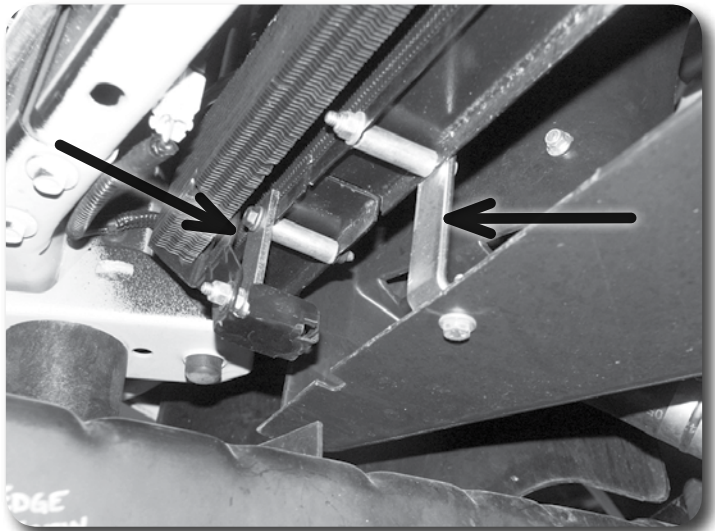

Figure 21
51. Locate the holes in the bottom radiator flange. There will be a set of holes above each of the holes that were drilled in the bottom fan shroud earlier. Install a provided 'L' shaped fan shroud bracket in each drilled holes with a  $\frac{1}{4}$ " x  $\frac{3}{4}$ " bolt, nut and  $\frac{1}{4}$ " USS washers. Leave hardware loose. The short end of the bracket will go against the fan shroud and point toward the back of the vehicle. The long end of the bracket will run to the back side of the lower radiator flange Figure 21.
55. Install the power steering cooler on the drop brackets so that the bracket is setting inside the cooler mounting bracket **Figure 21**. Fasten the cooler to the drop bracket with ¼" nuts and ¼" USS flat washers. Torque hardware to 10-15 ft-lbs. Ensure the cooler lines are running away from any heated or rotating objects.